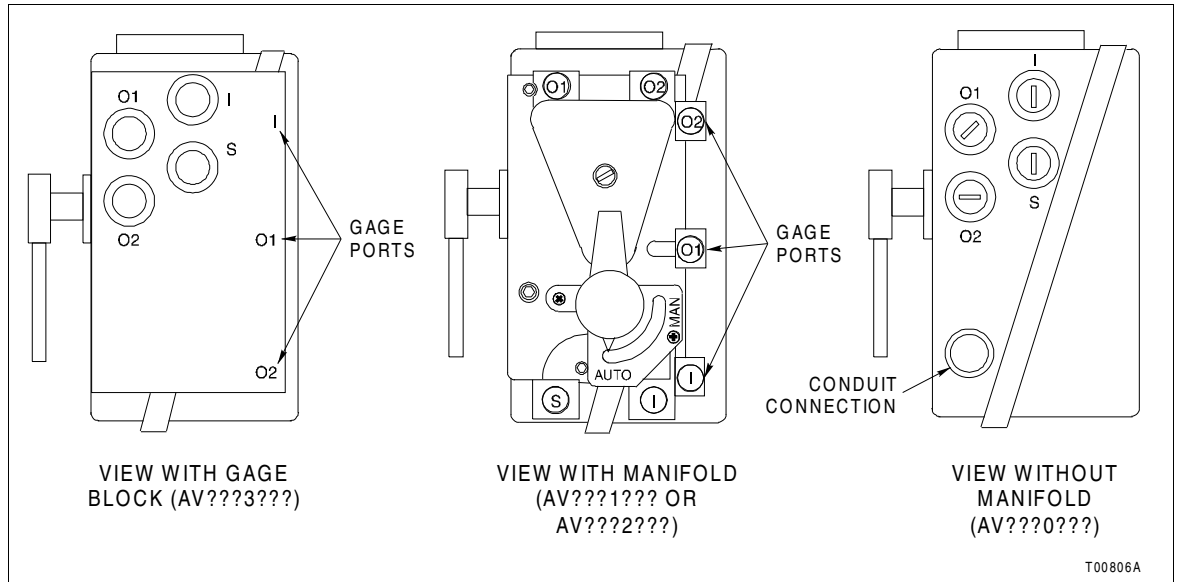

Figure B-5. Type AV Positioner Port Locations
1. Connect the required supply air to connection (Fig. B-5).
Connect the signal wiring using ½-inch NPT conduit. Figure B-5 shows the location of the conduit connection. Refer to Figure B-8